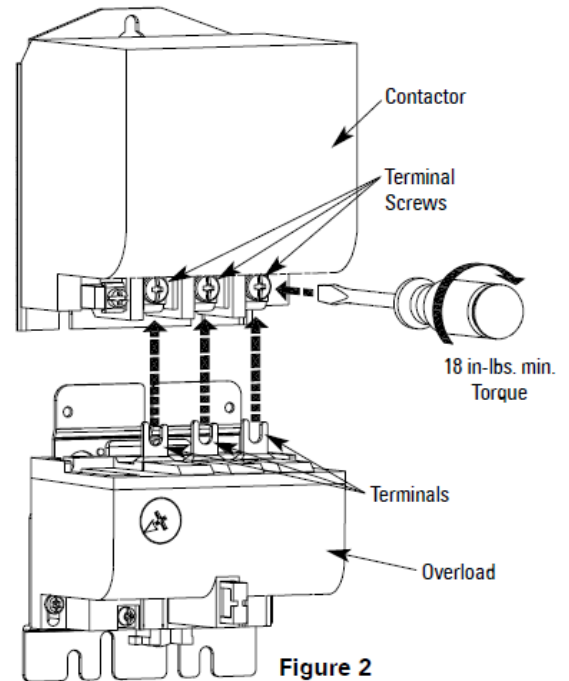

Figure 2
1. Align mounting holes on both overload and contactor mounting plates. Mount the plate with ESP100/ESP200 overload to contactor using the (3) terminal screws in the contactor Cat. No. 40BP32A* - 40EP32A* as shown in Figure 2.